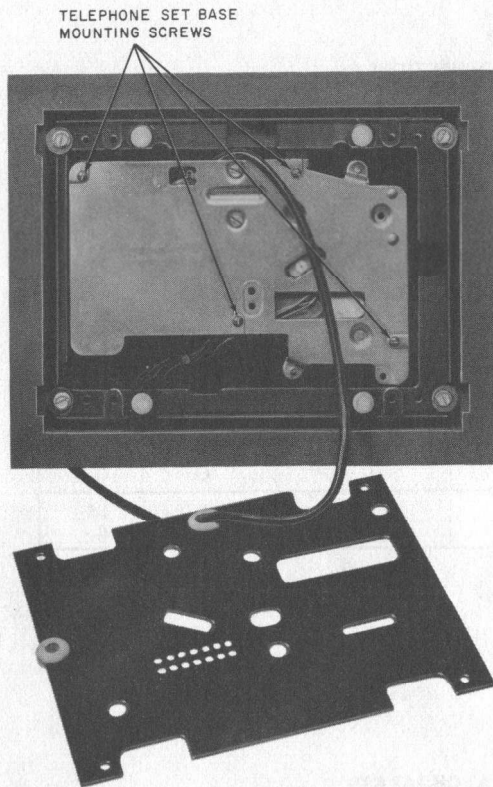

Fig. 7—Removing Telephone Set Base
- (2) Remove four telephone set base mounting screws and withdraw the base (Fig. 7).